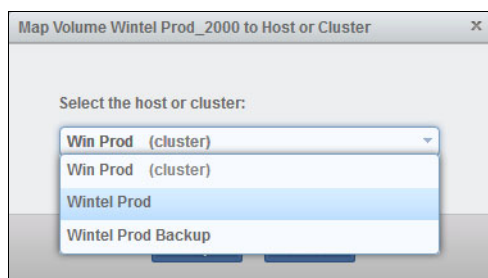

Figure 11-82 Map volumes to the selected host or cluster
3. The Map Volume to Host or Cluster window opens. Select the host or cluster from the list of configured stand-alone hosts and clusters, then click **Map**, as shown in Figure 11-82.